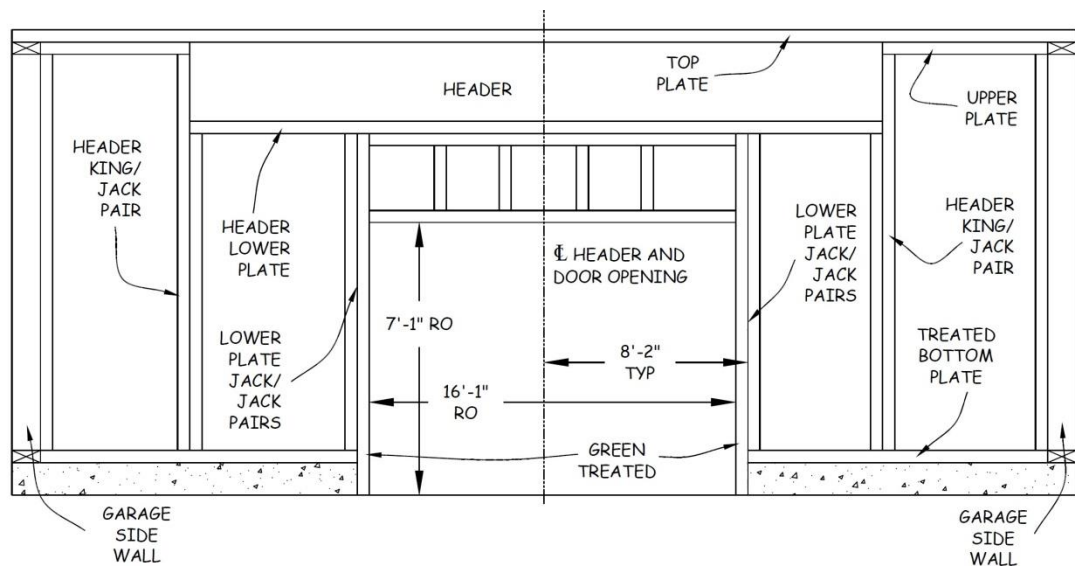

Figure 23.4. Overhead (OH) Wall Assembly.
1. Erect the side and back walls, and stabilize them before laying out the OH door wall. Refer to Figure 23-4 for the following steps.
22. With the bottom treated plates on the garage foundation, and the upper plates on the garage slab, assemble the wall as shown on Figure 23-4 with all of the components described above except the header pieces.